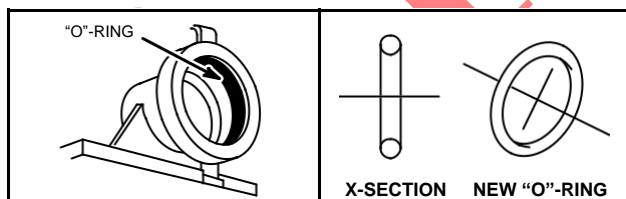

Fig. 162 - "O"-RING
1. Place "O"-ring in groove in throttle bore, Fig. 162.